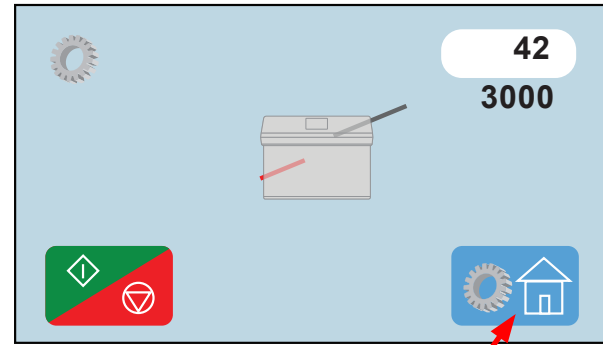

Fig. 40
2. Press the Start/Stop icon . The fold stop will move to the highest position and a number will appear in the white box (Fig. 40). Press the Start/Stop icon again to move the fold stop to the lowest position. A new number will appear in the white box for the lower position. Run the test a couple more times. If the numbers remain within 1 to 2 of the original numbers the fold table is working properly.